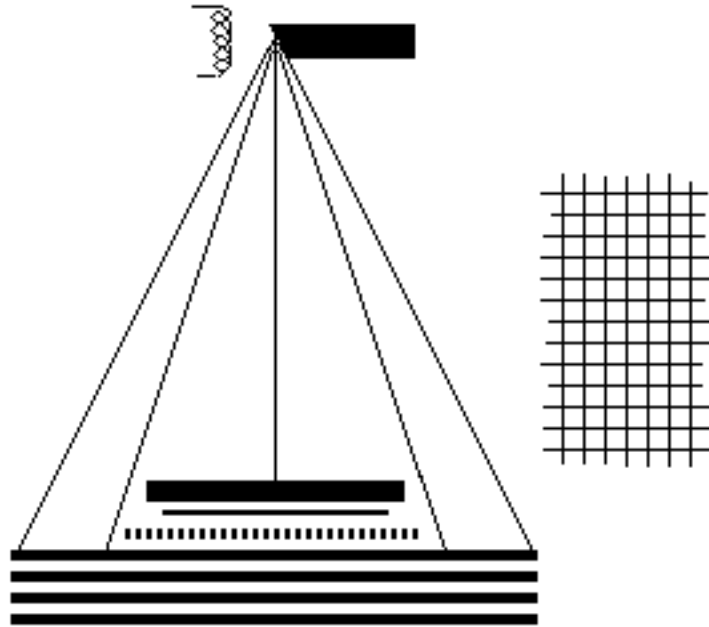

Figure 1-5. A schematic illustration of the set-up to demonstrate backscatter radiation.
1. IVa Make an exposure with ANSI Speed Group F film using the piece of mandible embedded in plastic (Figure 1-5).